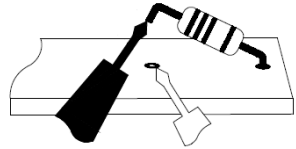
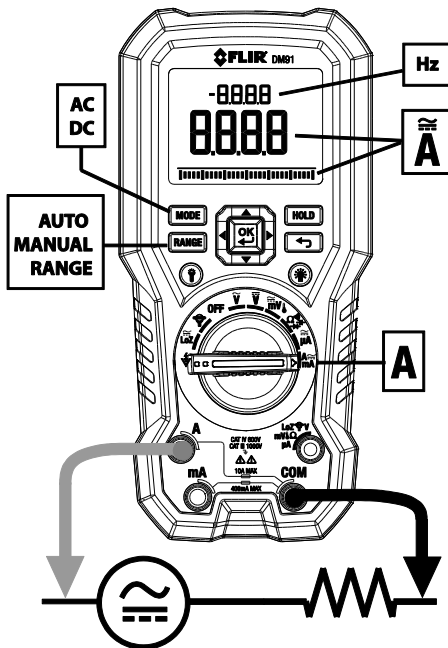

Fig. 5-7 Disconnected component
Fig. 5-8 High Current 'A' and Frequency Measurements
For test lead current measurements, disconnect the part under test and connect the test leads in series with the part, see Figure 5.7.
4. Connect the probe leads in series with the part in accordance with Figure 5.7 and Fig. 5-8 for 'A' measurements, Fig. 5-9 for mA measurements, or Fig. 5-10 for μ A measurements.